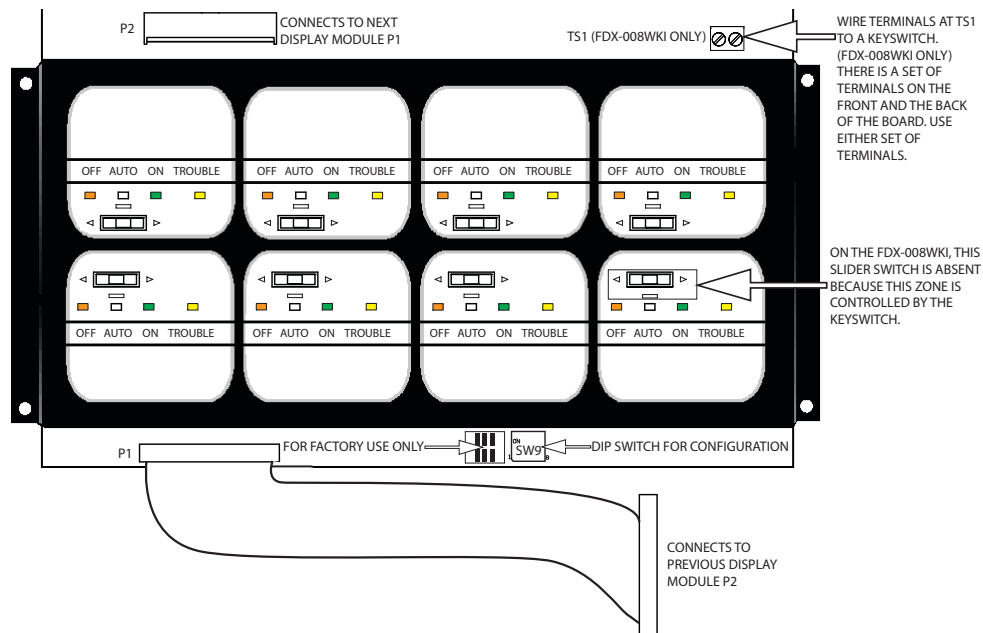

Figure 15 FDX-008W(KI) Fan Damper Control Display Module
Before mounting the FDX-008W(KI) module, if a keyswitch is to be connected, wire the keyswitch to terminals at TS1 as shown in Figure 15. Mount the FDX-008W and FDX-008W(KI) fan damper control display modules in any position on the front part of the FX-240N chassis and backbox.